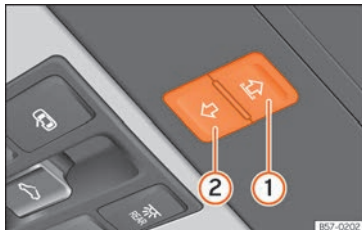

Fig. 108 On the interior roof lining: sunshade blind buttons.
Buttons **»»** Fig. 108 **1** and **2** have two levels. The first level opens or closes the sun blind fully or partially.
- *Sunshade blind*: within approximately 5 seconds of having activated the anti-trap function, press button »» Fig. 108 Ⓜ until the sun blind closes completely.